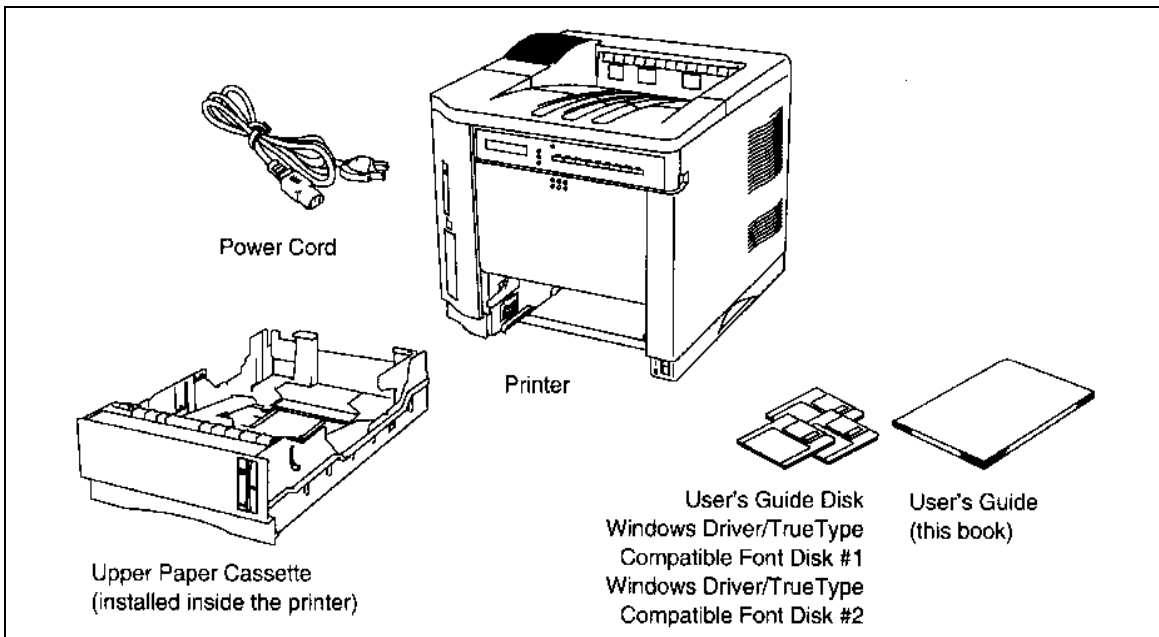

Figure 3-23. Brother HL-1600 Laser Printer Components.
- (1) Open the box and remove the printer and its components.
- (2) Examine each item for damage (figure 3-23).